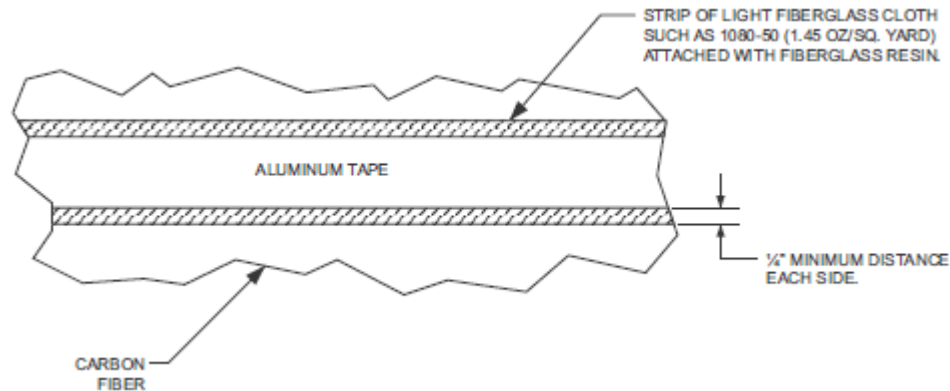

Figure 4-59 Fiberglass Insulation for Carbon Fiber Material
3. If the tape will come in contact with carbon composite material, the tape must be electrically isolated from the carbon composite material to prevent corrosion due to dissimilar materials. Secure a thin layer of fiberglass cloth to the carbon fiber with fiberglass resin as shown in Figure 4-59.